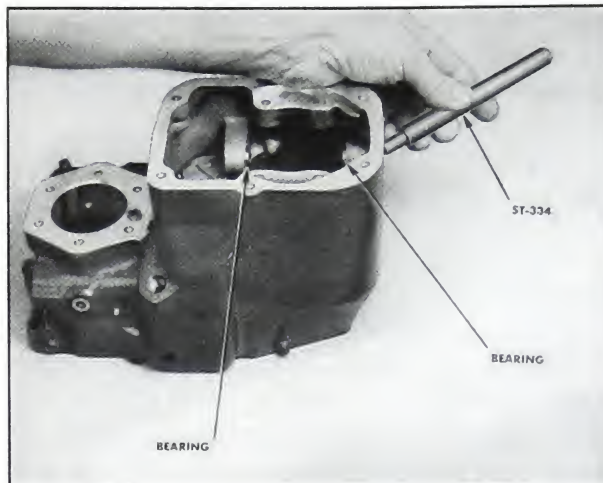

Fig. 5-206. Installing new governor control shaft bearing
1. Drive out both inner and outer bearings with ST-334. See Fig. 5-206. The governor-shaft oil seals can be driven out with the needle bearing tool.